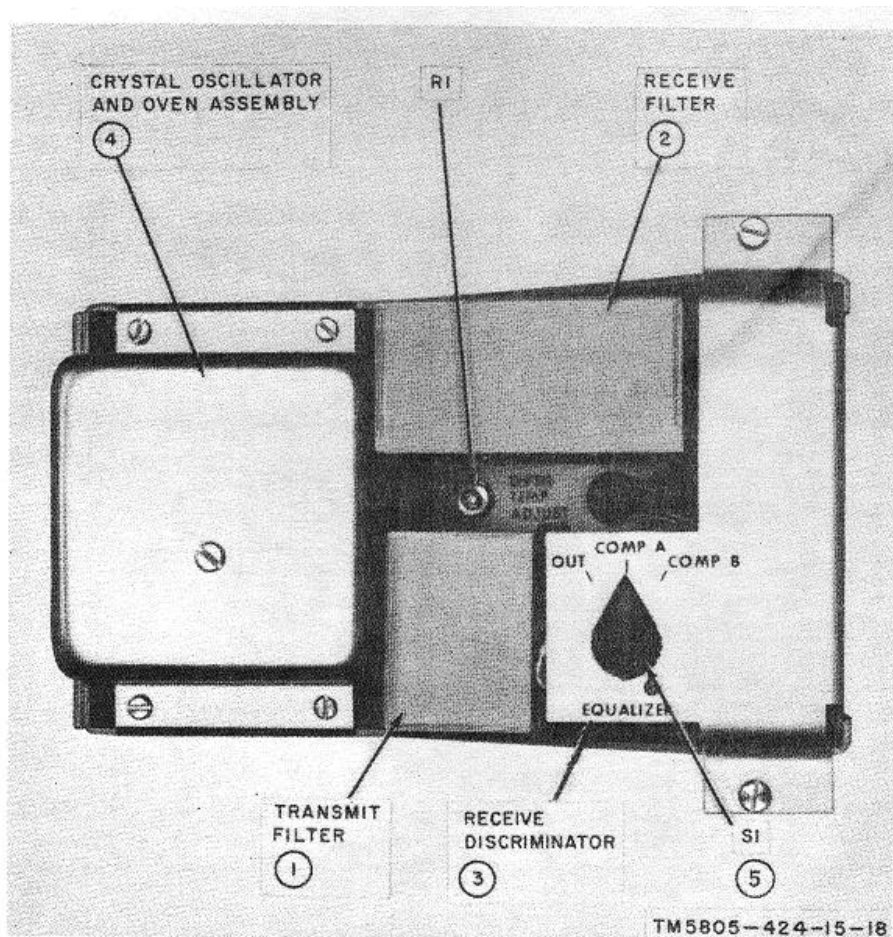

Figure 2-7. Plug-in module of Modem Subassembly MX-7373/G, MX-7375/G, MX-7383/G, or MX-7385/G.
(2) Rotate the EQUALIZER switch (fig. 2-7) to the position that provides a maximum opening of the eye-pattern; then, disconnect the oscilloscope.